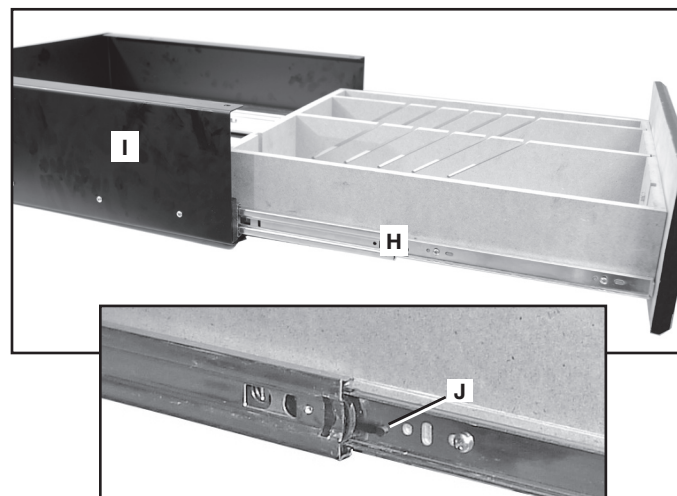

FIG. 5
If you have the accessory drawer, remove the drawer (H) Fig. 5 from the drawer frame (I). To do this hold release tab (J) and unhook the drawer's metal glider from the frame's metal glider.